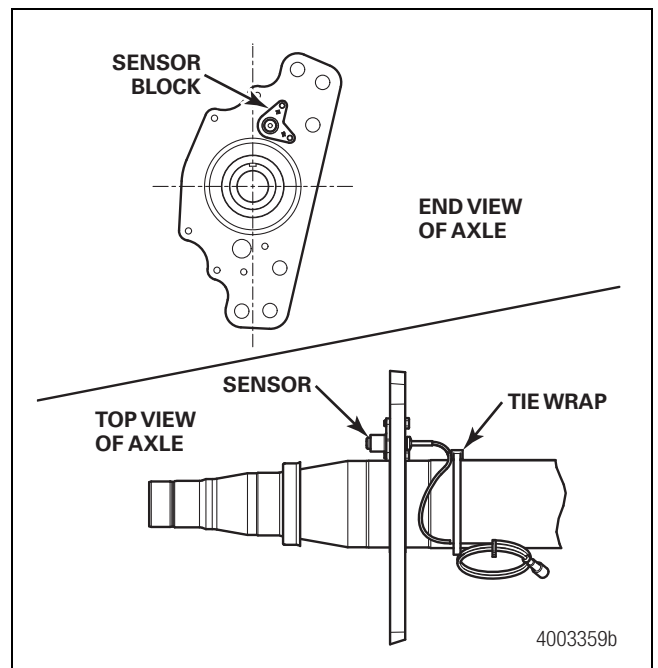
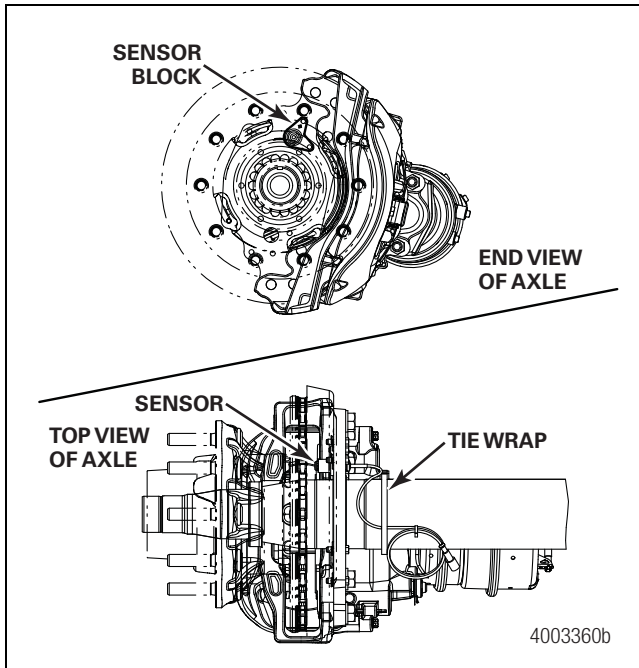

Figure 12.16
Figure 12.17
- **ABS block mounted on torque plate.** Refer to Figure 12.16 and Figure 12.17 for wheel ends using flat rotor equipped with ABS tone rings with a 7.25" pitch circle diameter.